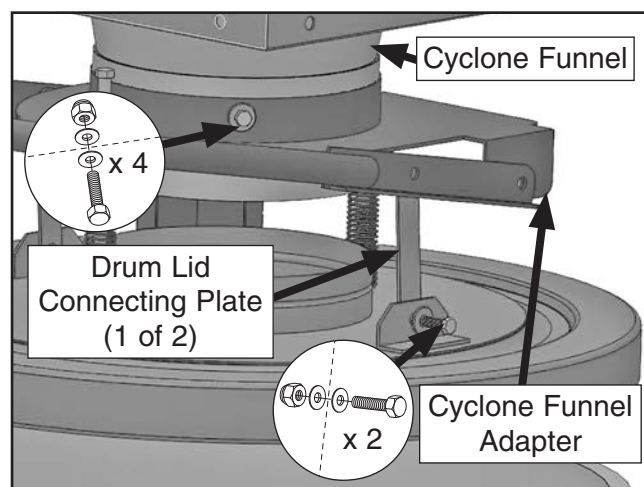

Figure 28. Cyclone funnel attached to adapter and drum lid connecting plates installed on drum lid.
32. Align mounting holes of cyclone funnel and cyclone funnel adapter then attach with (4) $\frac{3}{8}$ "-16 x 1" hex bolts, (8) $\frac{3}{8}$ " thin flat washers, and (4) $\frac{3}{8}$ "-16 lock nuts (see **Figure 28**).
33. Install drum lid connecting plates with (2) $\frac{3}{8}$ "-16 x 1" hex bolts, (4) $\frac{3}{8}$ " flat washers, and (2) $\frac{3}{8}$ "-16 lock nuts (see **Figure 28**).